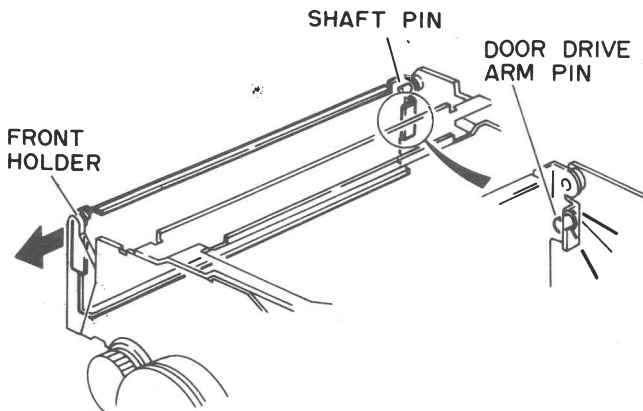

Fig. 14 Cassette Door Removal
4. Pull the front holder on the right of the cassette door to the right to remove the cassette door (Fig. 14).
- Insert the shaft pin and door drive arm pin into the two (2) grooves on the left of the cassette door during installation. (Fig. 14).